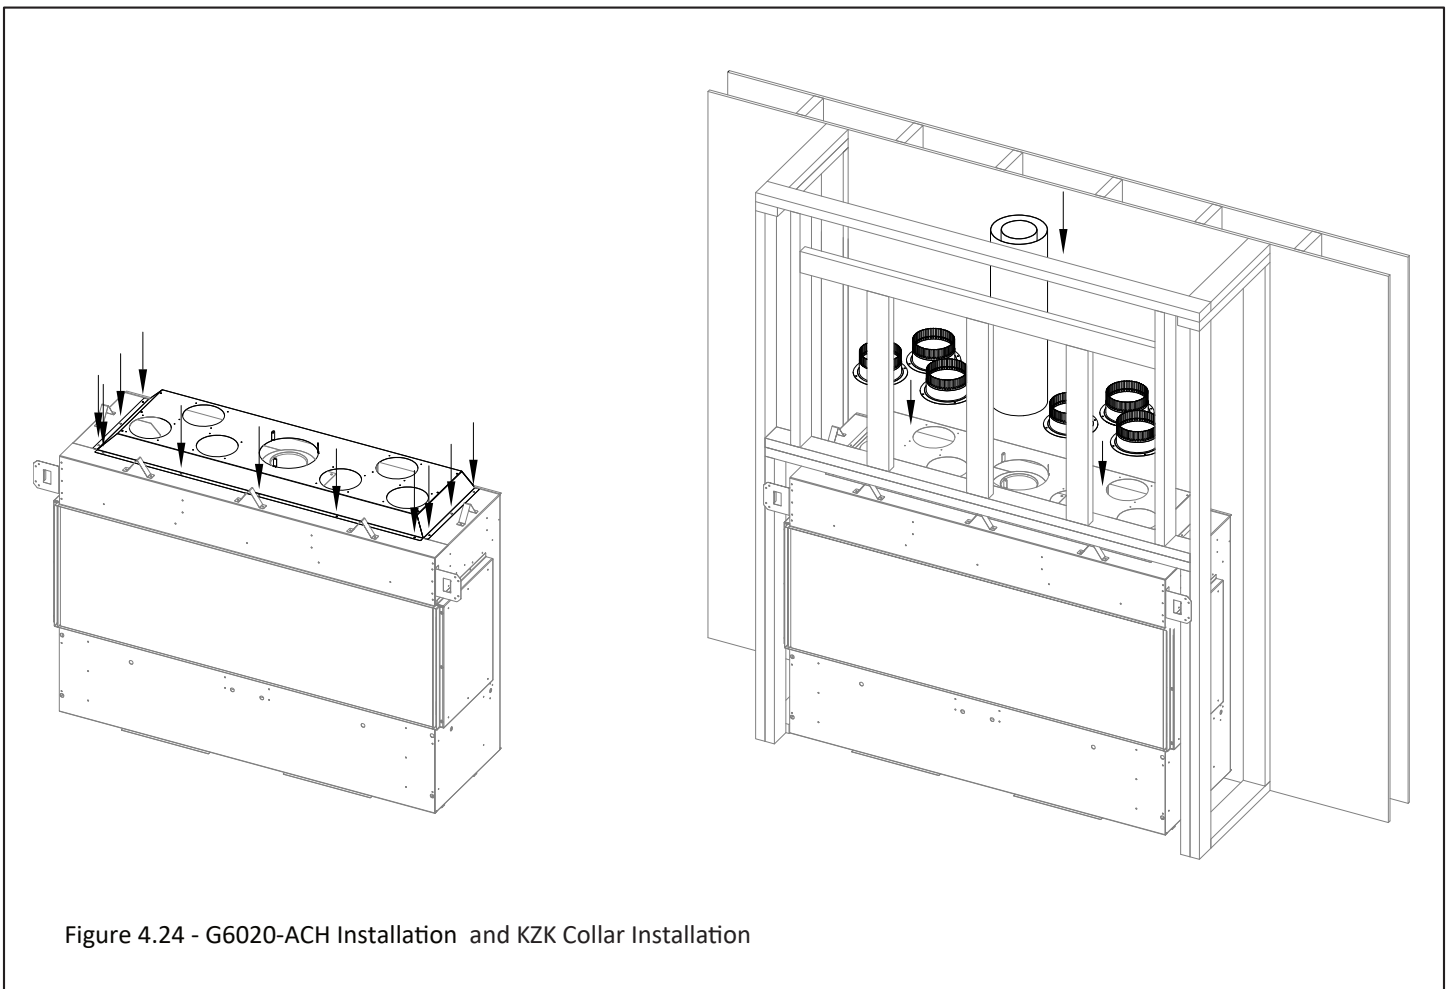

Figure 4.24 - G6020-ACH Installation and KZK Collar Installation
Important: You must order a (1) G6020-ACH with your KZK-056 or KZK-1510 and KZK-610. The G6020-ACH attaches to the fireplace. See Figure 4.24.